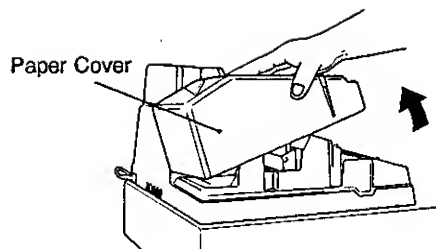

Fig. 1
2. Open the Paper Cover. (Fig. 1)